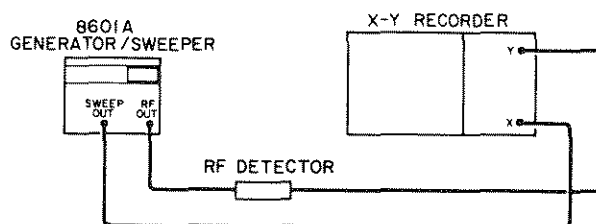

Figure 4-2: Alternate Linearity Test Setup
11. Connect equipment as shown in Figure 4-2.